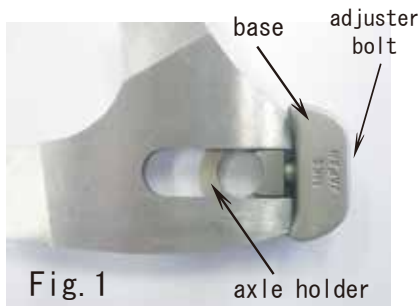

Fig. 1
- 1) Remove tape carefully not to change screw settings and install adjusters onto rear axle with axle holder ring facing down in contact with interior axle locknuts. Be sure to face the marked side MKS JAPAN of the base and square projection of axle holder to the outside of the bicycle. While maintaining original screw settings, slide the rear wheel with adjusters into the frame drop outs. (See Fig.1) Chain adjusters are preset to locate wheel towards the end of the rear drop outs. (Rear wheel is omitted from Fig.1 for clarity)